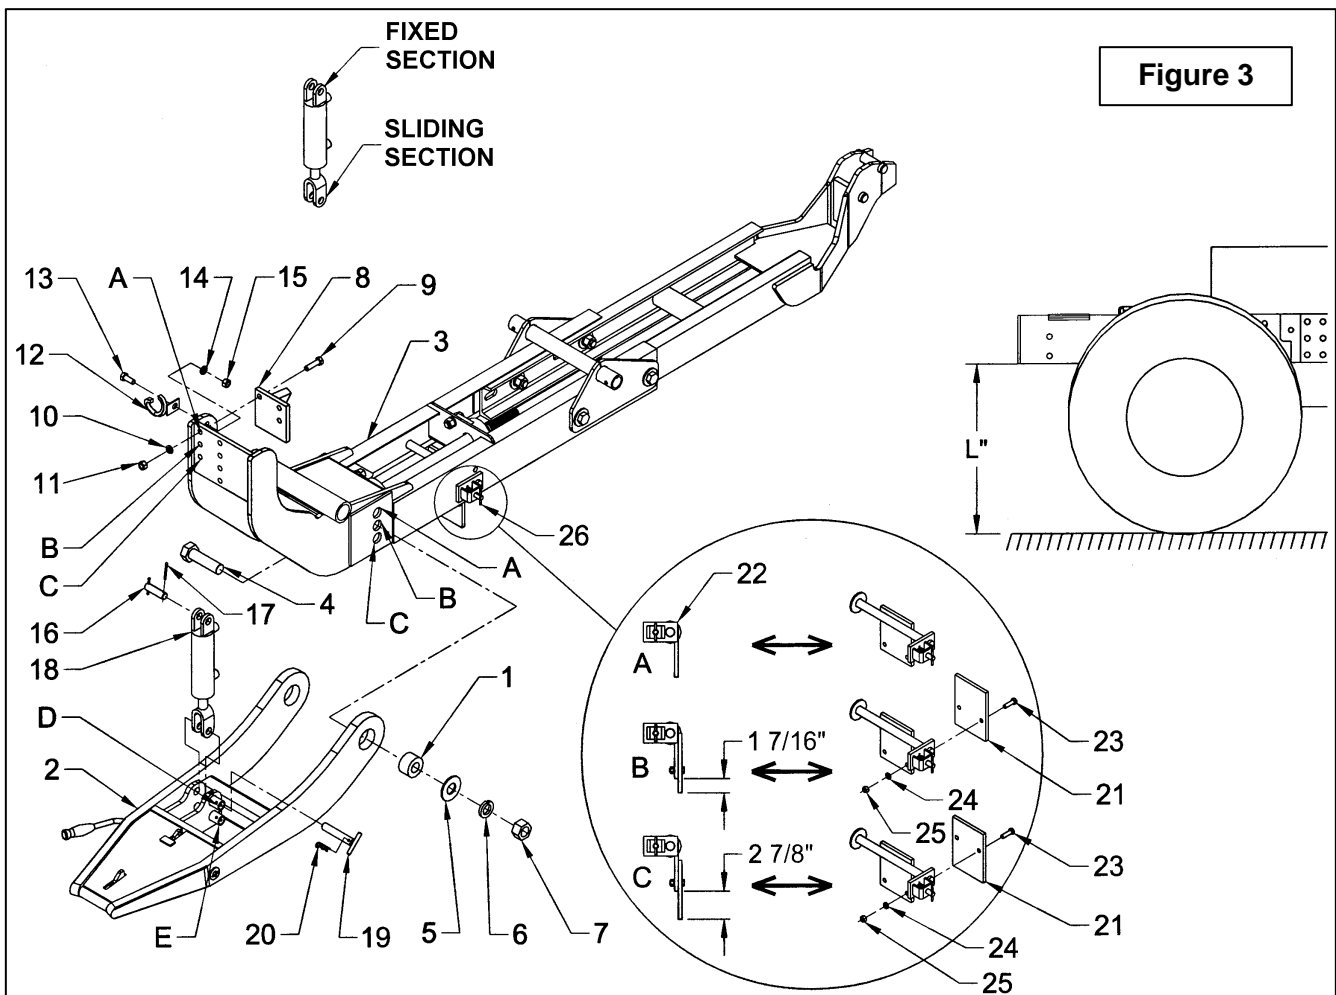

Figure 3
4. (FIGURE 3) Grease the outside of the pivot bushings (item 1) and secure the male quick hitch (item 2) to the front subframe (item 3) using two 1 1/8"NC x 4" bolts (item 4), pivot bushings (item 1), 1 1/4" flatwashers (item 5), 1 1/8" lockwashers (item 6) and 1 1/8"NC nylon insert locknuts (item 7). Tighten bolts between 600 and 840 lb-ft or 814 and 1139 N-M.
**IMPORTANT:** To attach the male quick hitch (item 2) to the front subframe (item 3):
5. (FIGURE 3) Secure cylinder support (item 8) to front subframe (item 3) using three 1/2"NC x 1 3/4" bolts (item 9), 1/2" lockwashers (item 10) and 1/2"NC nylon insert locknuts (item 11). Tighten bolts to 88 lbs-ft or 119 N-M.
**IMPORTANT:** Secure the cylinder support (item 8) at position "A", "B", or "C" as chosen in the section "IMPORTANT" of paragraph 4.
6. **(FIGURE 3)** Secure the hose support (item 12) to the front subframe (item 3) using a 1/2"NC x 1 1/4" bolt (item 13), 1/2" lockwasher (item 14) and 1/2"NC nylon insert locknut (item 15). Tighten bolt to 88 lbs-ft or 119 N-M.
7. **(FIGURE 3)** Remove the two 3/4" x 2 5/8" pins (item 16) already installed on the cylinder, by removing one cotter pin (item 17).
8. **(FIGURE 3)** Point the cylinder's hydraulic ports towards the rear of the subframe and attach the fixed section of the cylinder (item 18) to the cylinder support (item 8) using one 3/4" x 2 5/8" pin (item 16) and one cotter pin (item 17). The second 3/4" x 2 5/8" pins and the other two cotter pins will not be used again. Place the sliding section of the cylinder (item 18) at position "D" of the male quick hitch (item 2) and secure with the 3/4" "T" pin (item 19) and the 3mm x 65mm hairpin (item 20).
9. **(FIGURE 3)** Secure the parking stand extension (item 21) to the subframe parking stand (item 22) using two 3/8"NC x 1 1/4" bolts (item 23), 3/8" lockwashers (item 24) and 3/8"NC hex. nuts (item 25). Tighten bolts to 20 lbs-ft or 27 N-M. Use attaching position "A", "B", or "C" as chosen in the section "IMPORTANT" of paragraph 4, and make sure to position the parking stand extension (item 27) as shown on figure 2a.
**NOTE:** If you use position "A", the parking stand extension (item 21) will not be required.
1. Install the 1/4" NF grease fitting on each of the 1 3/8" flange bearings (item 2) and place the 1 3/8" flange bearings (item 2) as indicated on figure 3, making sure to direct the grease fittings towards the ground. Slide the 1 3/8" output shaft (item 1) inside each flange bearing. Secure using 5/8"NC X 1 3/4" bolts (item 5), 5/8" lockwashers (item 6) and 5/8"NC nylon insert locknuts (item 7). Tighten bolts to 165 lbs-ft or 224 N-M.
- Sit on the operator's seat, start the engine and compress the cylinder (item 2) using the hydraulic valve lever. Shut off the engine and remove the wood block (item 7).
- Move the rear subframe (item 8) until the plate (item 10) is perfectly pressed against the tractor draw bar (item 5).
- Adjust and tighten securely the four 3/4"NC x 2 3/4" bolts (item 9) to 297 lbs-ft or 403 N-M and the four M16 x 1.5 x 55mm (item 11) to 130 lbs-ft or 176 N-M.
- Lastly, pull on the subframe's parking stand pin (Fig. 3, item 26) and push the parking stand (item 1) towards the front until the pin lodges into the second hole.